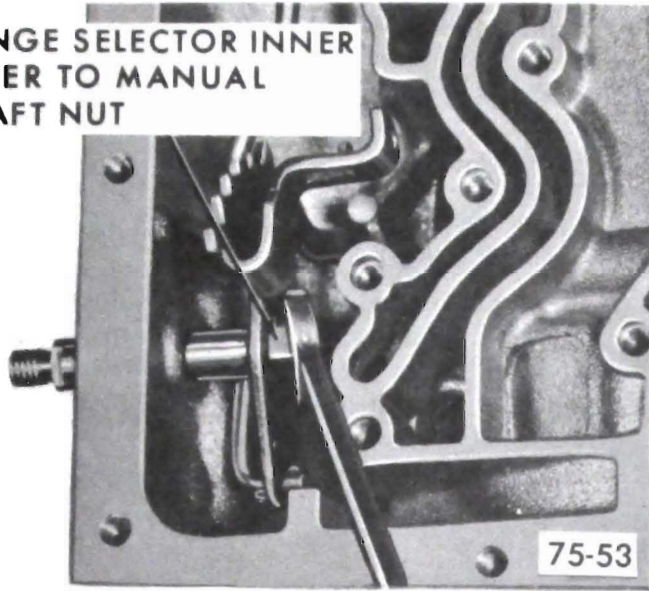

Figure 75-83
3. Remove jam nut holding range selector inner lever to manual shaft. See Figure 75-83.